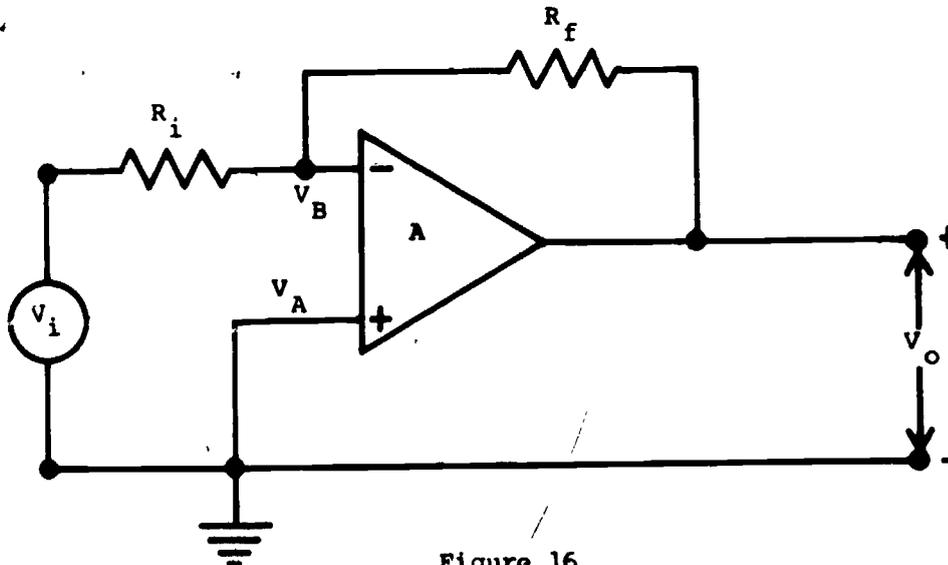

Figure 16.
Most commonly, op-amps are used with feedback circuits - a portion of the circuit which connects or feeds the output back to the input. The result is called a closed-loop op-amp circuit. In this connection the gain is essentially independent of the open loop gain of the op-amp. The simplest of these circuits is the inverting amplifier shown in Figure 16. In this circuit the feedback resistor, R_f , provides a current loop connecting the output back to the inverting input.
The closed-loop gain (G) of the inverting amplifier is determined by the fraction of the output voltage that appears at the inverting input. In the circuit of Figure.16, this is determined by the values of the voltage divider, resistors R_f and R_i .